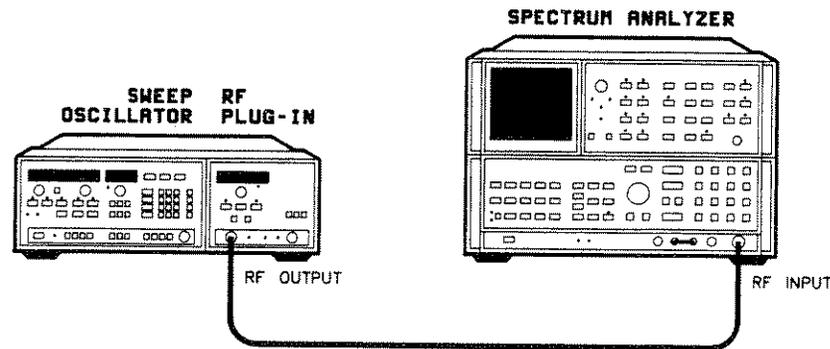

Figure 4-8. Spurious Signal Test Setup
1. Connect the equipment as shown in figure 4-8. Allow one hour warm up.